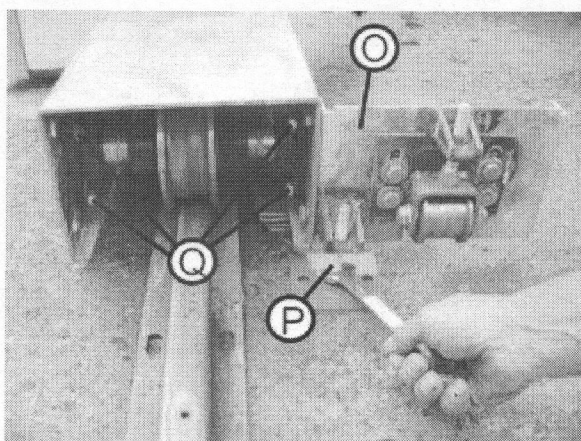

Fig. 014
5. Raise portal with screw (P), support movable foot, loosen screw (P) and remove lifting attachment again (Fig. 014).
6. Loosen retaining screws of both flange bearings (Q) (Fig. 014).
7. Remove complete unit (Fig. 014).
14. Raise portal with screw (P), remove support material and lower portal again (Fig. 014).